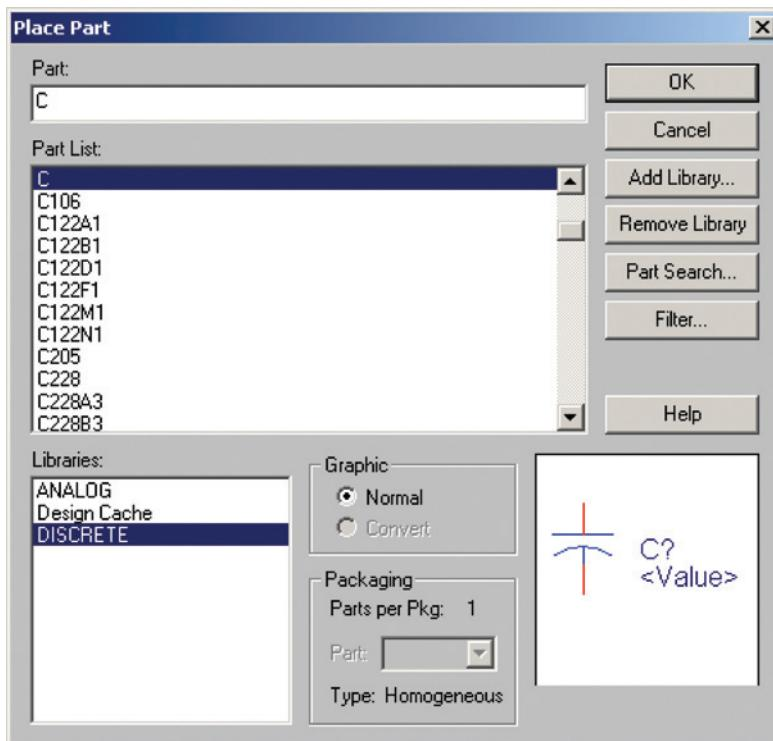
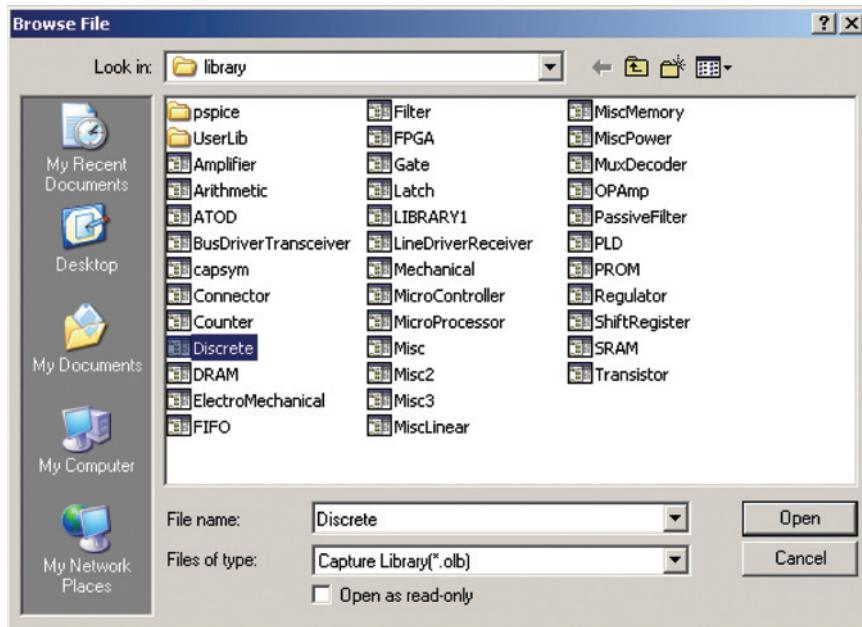

Figure 2-5 **Place Part** dialog box.
Figure 2-6 Add a library using the *Browse File* dialog box.
To add parts to your schematic, make the Schematic page active and select **Place** from the **Part** dropdown menu, or press the place part tool button or press **P** on your keyboard. The **Place Part** dialog box shown in Fig. 2-5 pops up. In the Libraries selection box in the bottom left of the dialog box, click **DISCRETE**. Then in the Part List box click **C** (for capacitor). You should see its symbol in the Preview window on the lower right. Click **OK**. In the Libraries
window you may have libraries different from what is shown in Fig. 2-5. At the very least you should have the **DISCRETE** library since you had the wizard include it. If for some reason you do not see any parts or the **DISCRETE** library is not there, you can follow along for now to get an overview of the process, or you can find and add the library to your project.
**To add a part library** to your project select **Place** from the **Part** dropdown menu as described above. In the **Place Part** dialog box shown in Fig. 2-5 press the **Add Library...** button to bring up the **Browse File** dialog box shown in Fig. 2-6. Find and select the **Discrete.olb** library and click **Open**. You can also find a capacitor in the **pspice** library folder. To add it, double click the **pspice** folder, select the **Analog.olb** library, and click **Open**. You should now be back to the **Place Part** dialog box, and the library you just added should be shown in the Libraries list box. Find and select **C** from the Part List selection box and click **OK**.